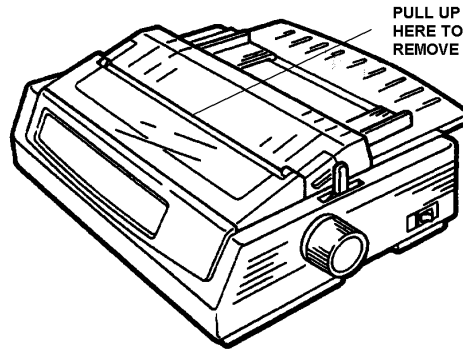

Figure 2, Ribbon Cartridge Inspection Cover Removal
22. Referring to Figure 2, remove the Ribbon Cartridge Inspection Cover, by gently pulling up on the middle of this cover until it pops off.